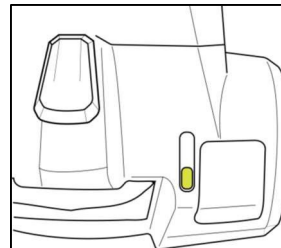

Figure 12: Drive Position
Pull back on the freewheel lever towards the letter D (Drive Position). *See figure 12.*
2. Check to be certain that your scooter freewheel lever is in the engaged in the drive position. *See Figure 12/Page 21.*